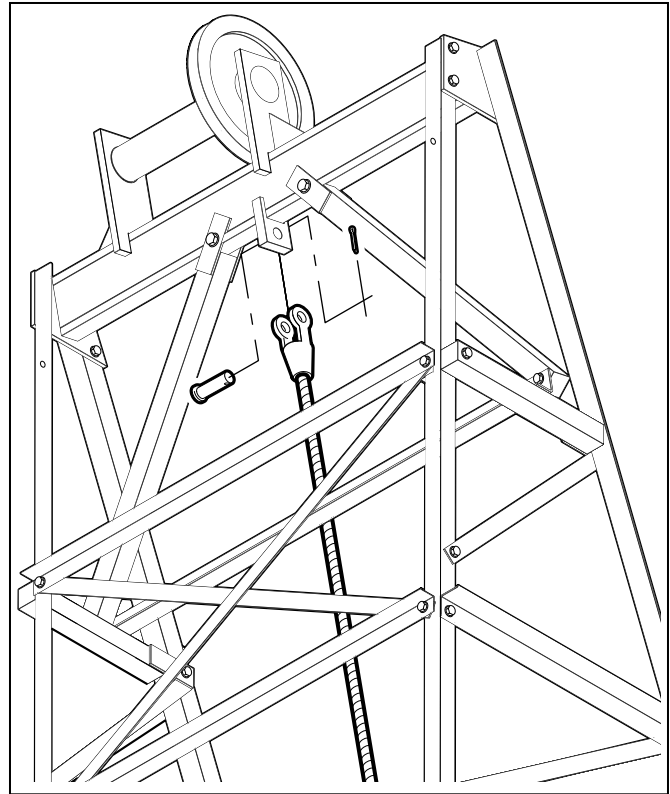

Figure 3.5 Install Cable – Stationary End
1. Secure the cable to the underside of the top sheave support as shown in Figure 3.5.